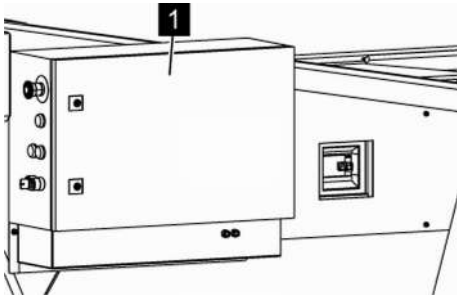

Fig. 174: Opening the control box door
2. ➤ Open control box door (Fig. 174/1) with the included double bit key (↪ Chapter 4.7.1 'Keys' on page 66).